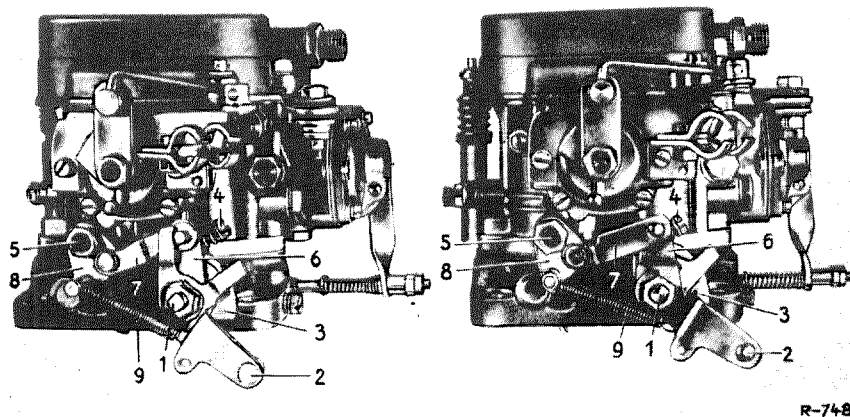

Fig. 07-0/21
- In the carburetor for Model 220 S the tube (5), cast integral with the carburetor cover and ventilating the float chamber, is not graded (see Fig. 07-0/20).
The actuating linkage for the throttle valves of stages 1 and 2 has been modified (Fig. 07-0/21). However, the arrangement and the function of the throttle valves correspond to the description given in Workshop Manual Model 190.